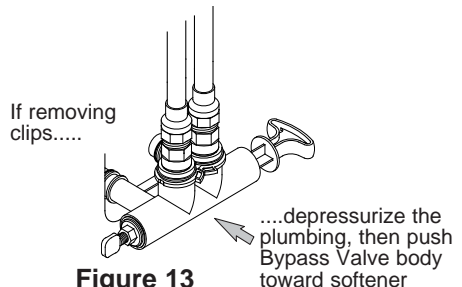

Figure 13
7. Check for leaks around clips at softener's inlet and outlet. If a leak occurs at a clip, depressurize the plumbing (turn off the water supply and open faucets) before removing clip. When removing clips at the softener's inlet or outlet, push the single bypass valve body toward the softener (See Figure 13). Improper removal may damage clips. Do not reinstall damaged clips.